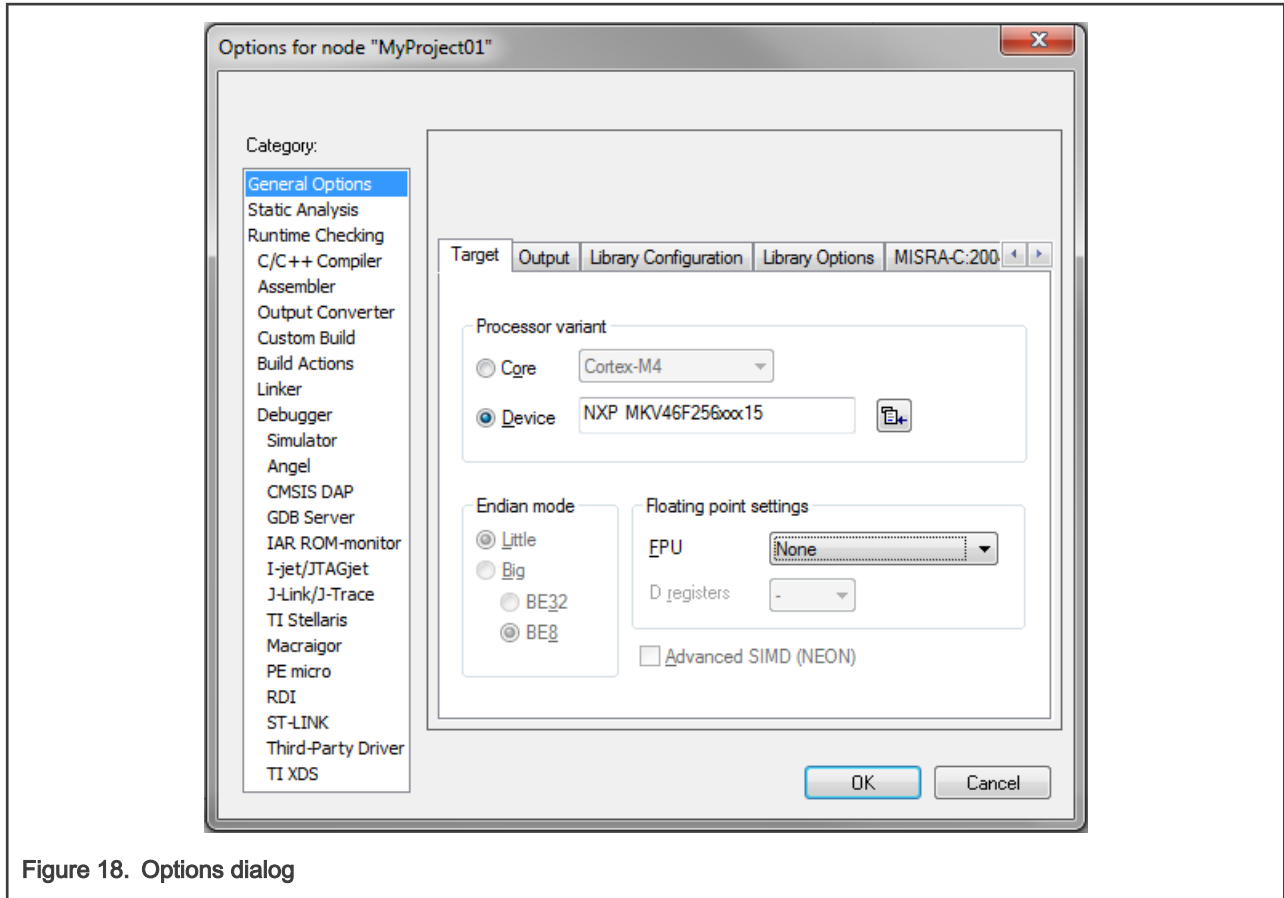

Figure 18. Options dialog
6. In the Target tab, select the Device option, and click the button next to the dialog to select the MCU. In this example, select NXP > KV4x > NXP MKV46F256xxx15. Select None in the FPU option. Click OK. See Figure 18.